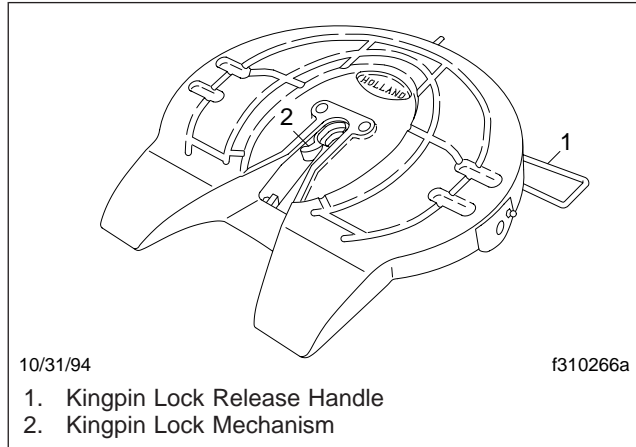

Fig. 8.1, Holland Fifth Wheel
Holland 3500 and FW8 series fifth wheels (**Fig. 8.1**) are bracket-mounted to the tractor frame in a position that best distributes the trailer load over the tractor axles.
6. Release the kingpin locking mechanism by pulling the kingpin lock control handle (Fig. 8.1) to the outward position.